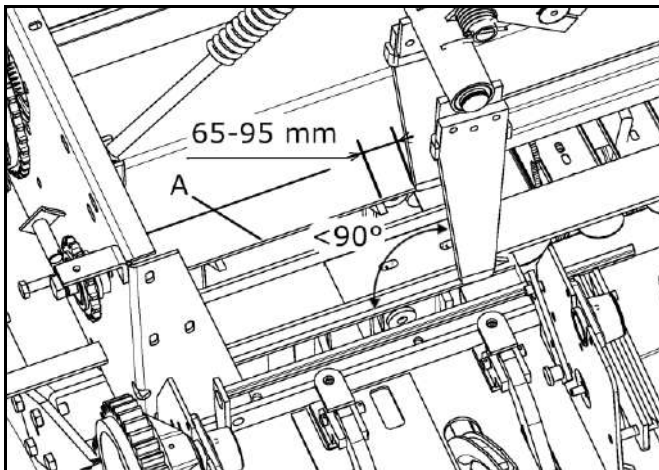
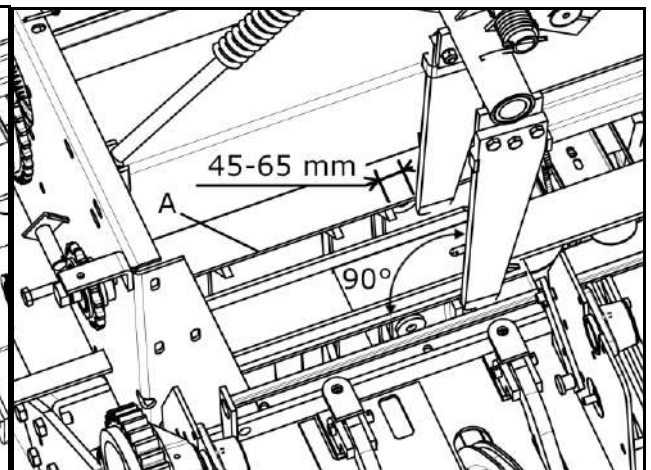

Fig. 7.4
Fig. 7.5
2) Move the carriage forward up to the reference position A (tips of the carriage in the plane of the fork passage slot) and position the crank of the first fork so as to have a distance of about 65 to 95 mm (if the fork is mounted with the inclined side towards the bale chamber, Fig. 7.4) or about 45 to 65 mm (if the fork is mounted with the perpendicular side towards the bale chamber, Fig. 7.5).